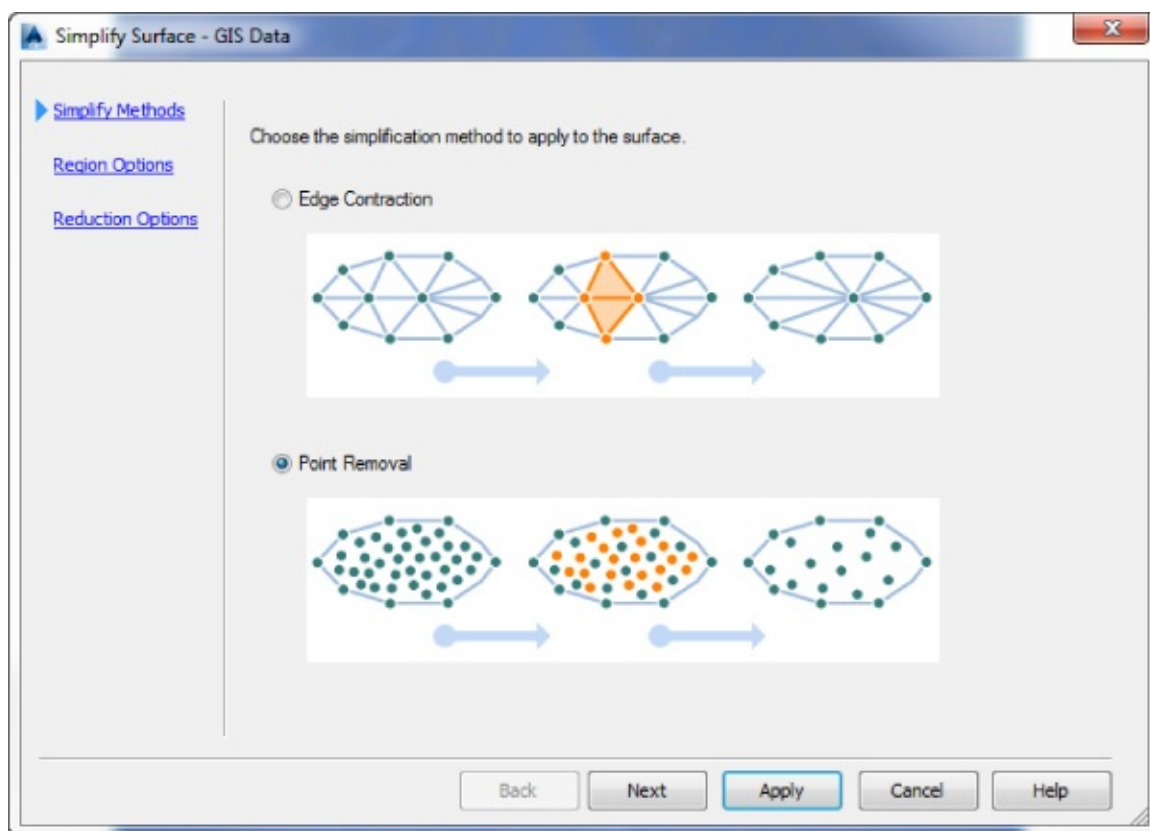

Figure 4.38 The Simplify Surface – Simplify Methods page
4. Select the Point Removal radio button, as shown in Figure 4.38, and click Next to move to the Region Options page.